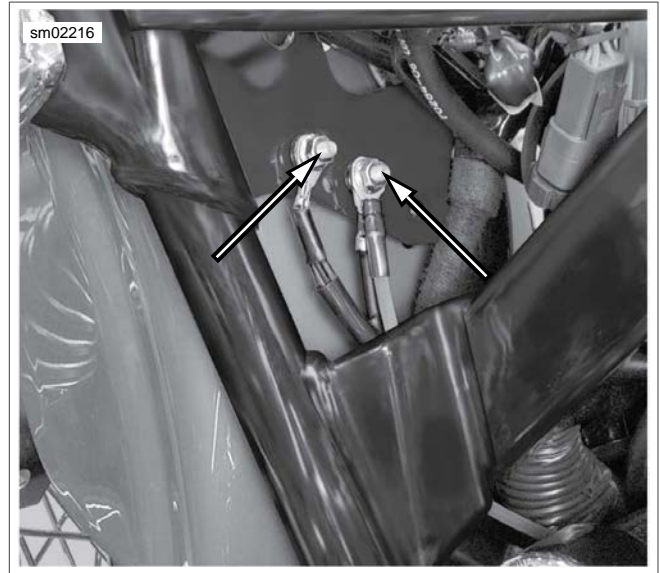

Figure 7-81. Vehicle Ground Studs
15. See Figure 7-81. Secure harness grounds to studs.